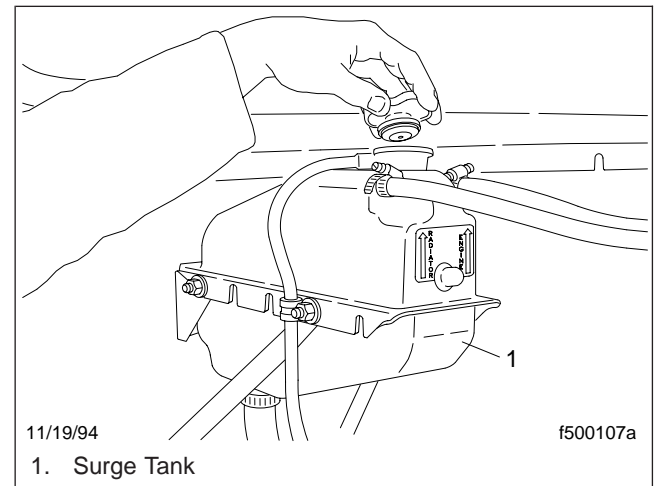

Fig. 1, Surge Tank and Cap
- 1.1 Remove the surge tank cap. See Fig. 1.